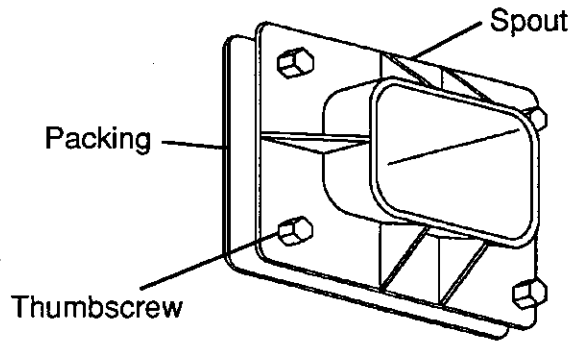

Fig. 6
- 5) Remove the thumbscrews, the Spout and the Packing. See Fig. 6. For DCM-700 series, remove the Ice Guide, Drain Pipe Holder and Drain Pipe in the Storage Bin as well.